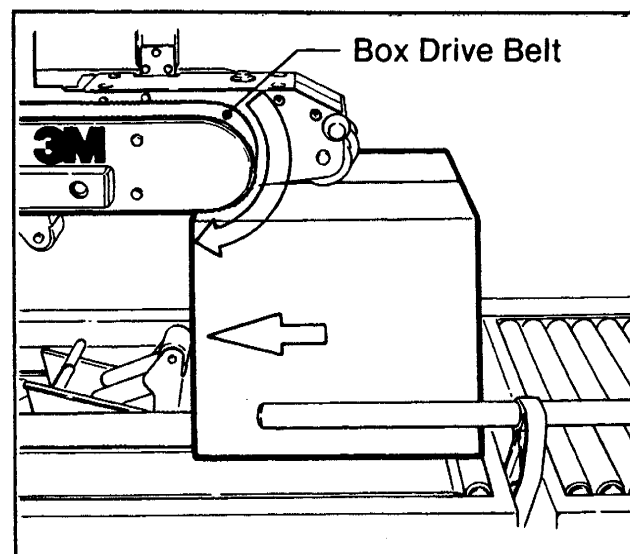

Figure 14 - Drive Belts
3. Once the box is pushed under the top taping head, the top taping head valve lever is released causing the top taping head to descend onto the box top, as shown in Figure 14, allowing the drive belts to convey the box through the top and bottom taping heads for application of the tape seals.